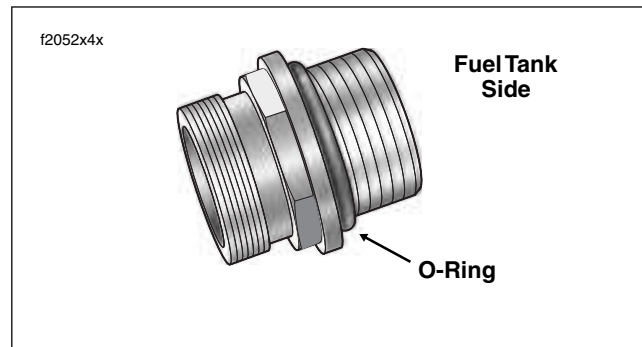

Figure 4-15. Fuel Tank Adapter
2. Slide a 7/8 inch socket over hex on adapter, and looking down at top of fuel tank, rotate in a clockwise direction to remove. See Figure 4-15.